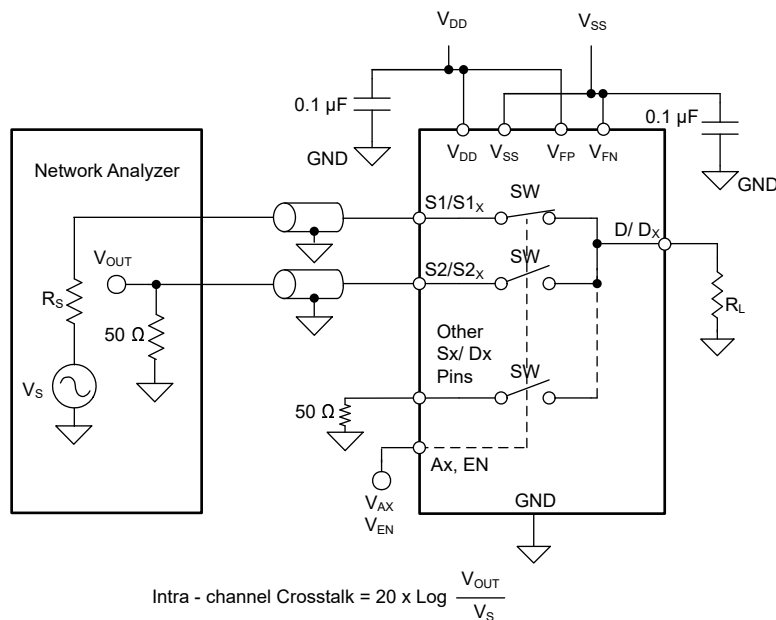

Figure 8-15. Intra-Channel Crosstalk Measurement Setup
1. Intra-channel crosstalk ($X_{TALK(INTRA)}$): Figure 8-15 shows the voltage at the source pin (S_x) of an off-switch input when a signal is applied at the source pin of an on-switch input in the same channel.